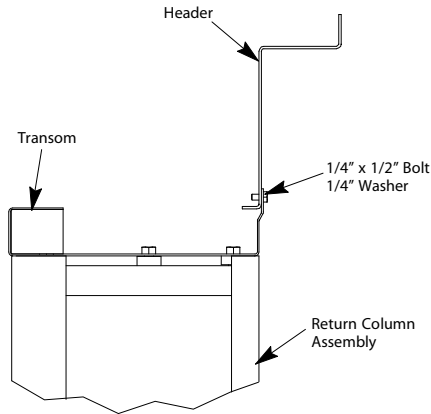

Figure 11 - Bolt on Track Header
6. Place a 1/4" x 1/2" large bolt in the center alignment hole of the header, and attach the header to the transom. Install additional bolts and tighten. See Figure 11.